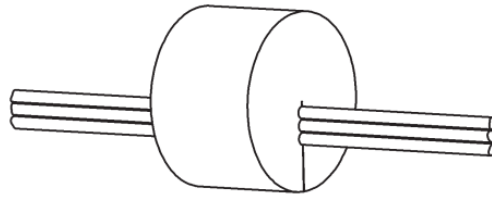

Fig. 10:
- Conduit – Included with the CO2 transmitter is a foam plug to seal the ½-inch EMT. Place the wires into the plug as shown in Fig. 10 and then insert the plug into the conduit sealing the conduit.